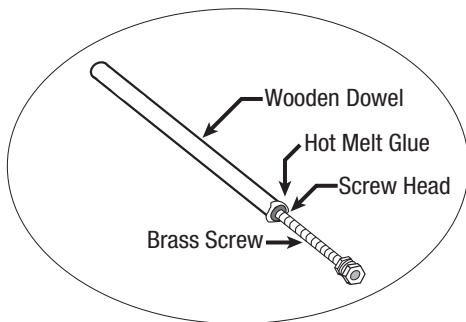

Figure 8.1.TPS test assembly.
- At least 6 prepared test assemblies. See Figure 8.1.